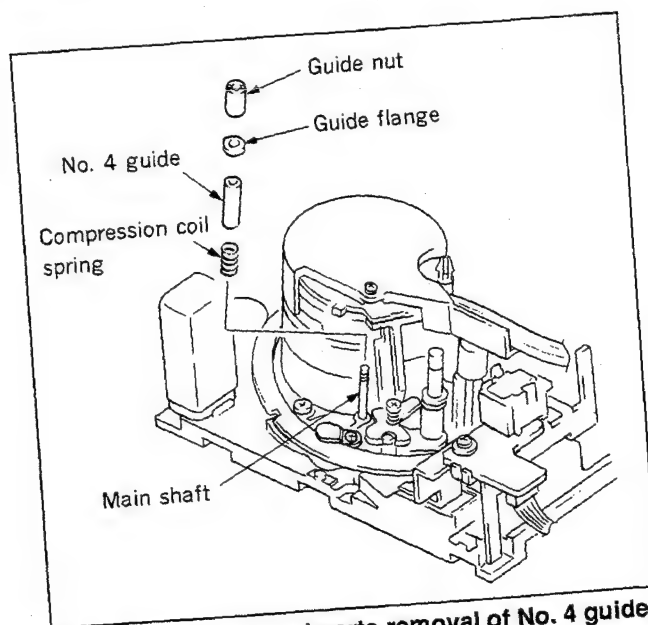

Fig. 4-10-2 Individual parts removal of No. 4 guide
2. Removing the component parts of No. 4 guide (Fig. 4-10-2)